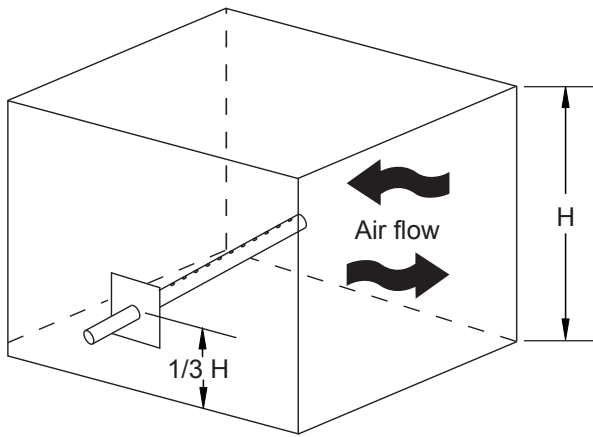
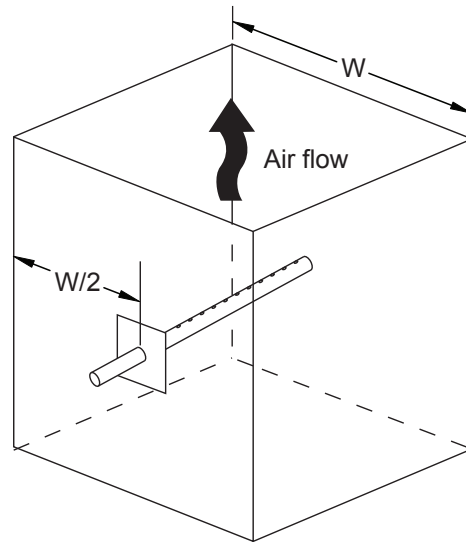

Fig. 14a HORIZONTAL DUCT
Fig. 14b VERTICAL DUCT
14.1 Proper installation of the steam delivery tube/diffuser and steam hose is critical for the trouble-free operation of the humidifier. Please find an accessible location on the duct and make sure you have a **minimum length of 35"** of straight duct downstream (without elbows or other obstructions on which the steam could condense), to allow the steam to disperse easily into the airflow. Once a suitable location has been found make a 1 1/8" middle insertion hole in the warm air duct for the steam diffuser. For a horizontal duct, make the 1 1/8" hole in the lower third of the duct height. Please see Fig. 14a. For a vertical duct, make the 1 1/8" hole in the middle of the duct. Please see Fig. 14b.